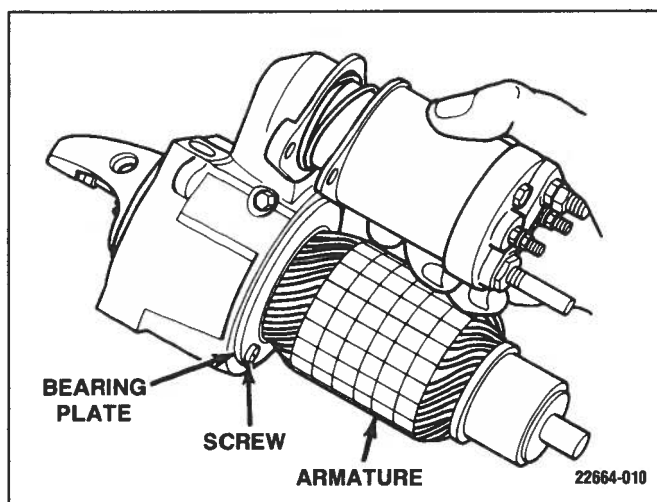

Figure 6-5. Bearing Plate And Armature
5. Remove center bearing plate screws and remove armature from housing (Figure 6-5).